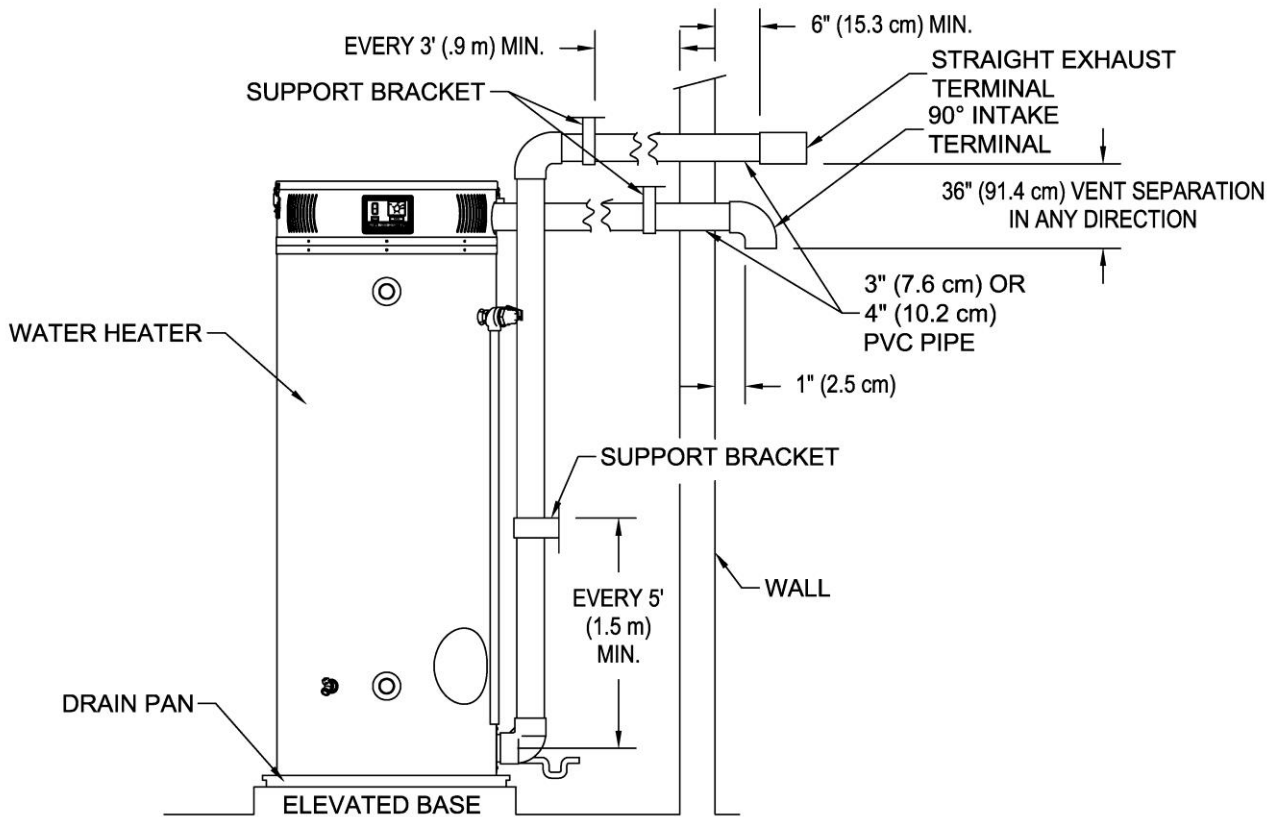

Figure 12. Typical Horizontal Direct Vent System
2. Use the proper PVC cement to secure the 90° exhaust vent and air intake terminals provided with the water heater to the plastic pipes. The distance between the back edge of the 90° exhaust vent terminal and the exterior wall (see Figure 12) must be 6 inches (12.7 cm) more for the exhaust vent terminal than the air intake terminal. Use the proper cement or sealant and assembly procedures to secure the vent connector joints between the terminal and the blower outlet. Provide support brackets for every 3 feet (.91 m) of horizontal vent.